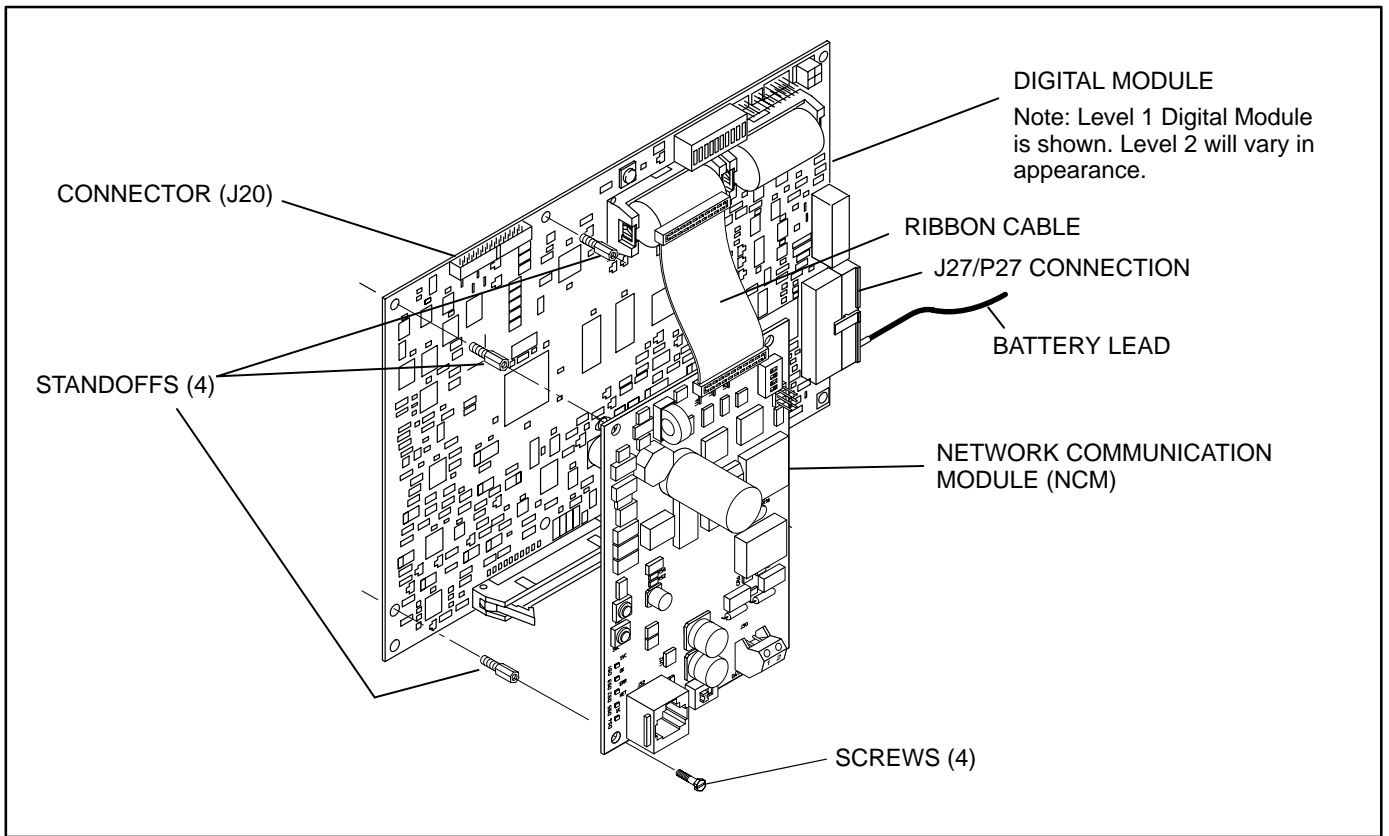

FIGURE 1. NETWORK COMMUNICATION MODULE INSTALLATION
7. Attach the four standoffs to the digital module (see Figure 1).